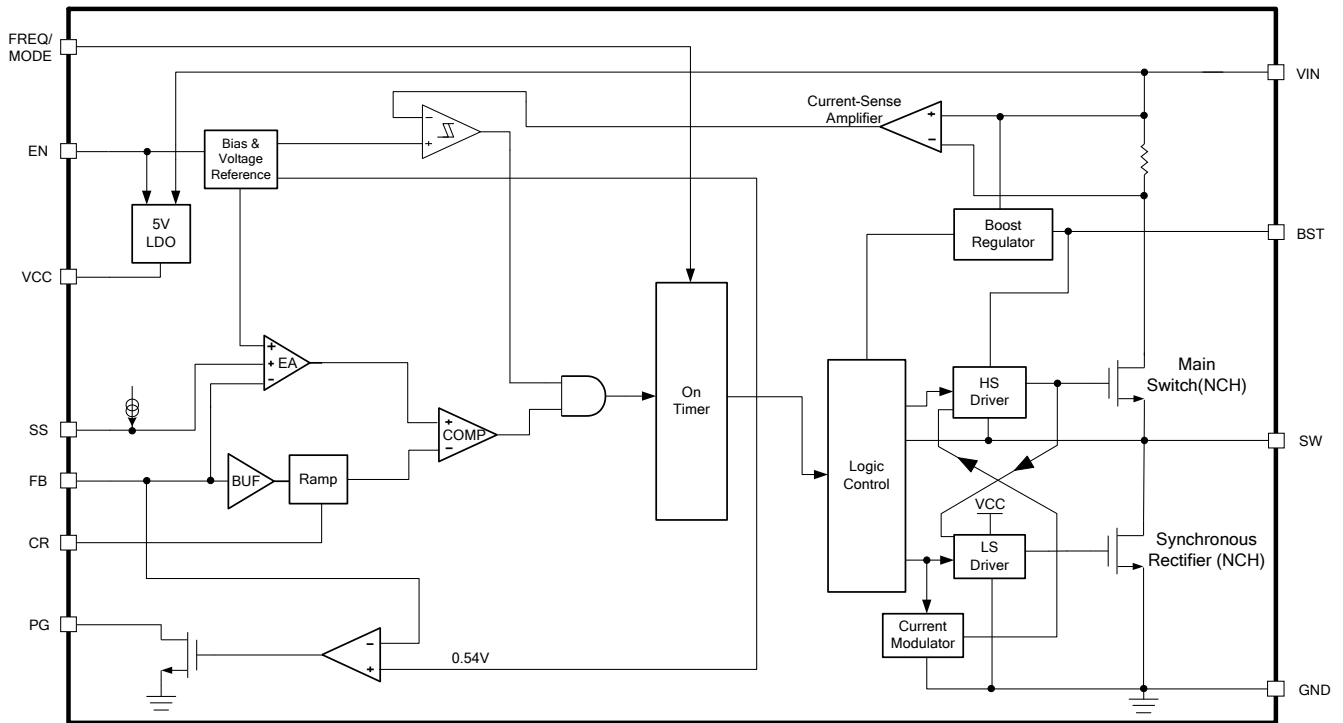

FIGURE 1. Functional Block Diagram
MP2326 has cycle-by-cycle over-current limit control. During the HS-FET on state, the inductor current is monitored. When the sensed inductor current hits the peak current limit, the HS limit comparator (see Fig. 1) is triggered, the device enters over-current protection mode immediately, and then turns off the HS-FET and turns on the LS-FET. Meanwhile, the output voltage drops until V_{FB} is below the under-voltage (UV) threshold (50% below the reference, typically). Once UV is triggered, the MP2326 enters hiccup mode to re-start the part periodically.